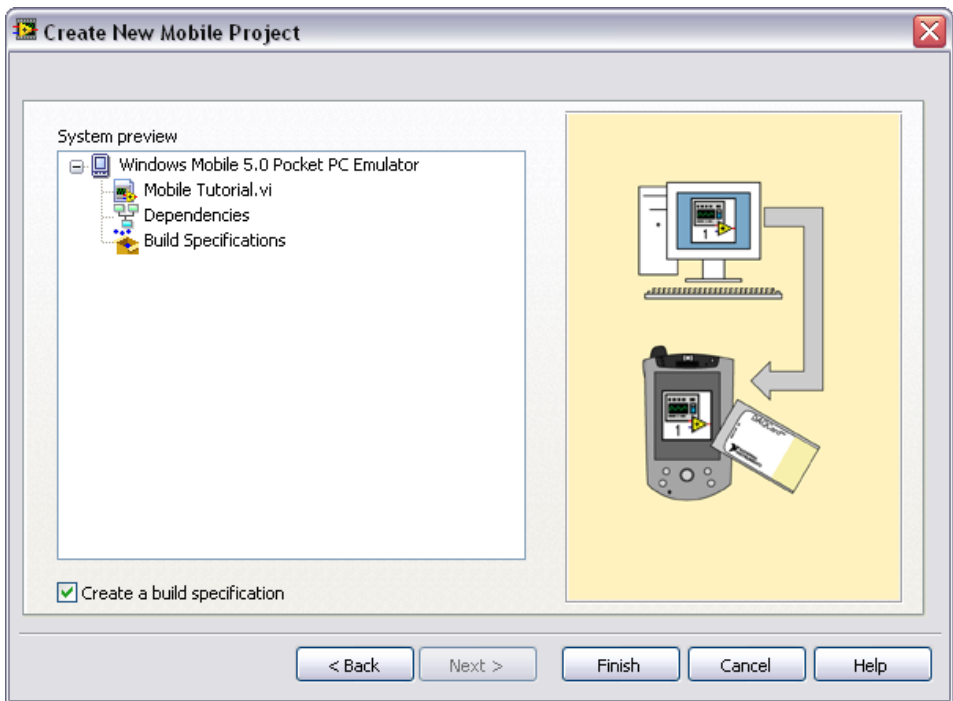

Figure 3. Previewing the Project
- Click the **Finish** button. Because the **Create a build specification** checkbox contains a checkmark, as shown in Figure 3, the **Mobile Build Specification Properties** dialog box opens. Refer to the *Creating the Build Specification* section for more information about creating a build specification.